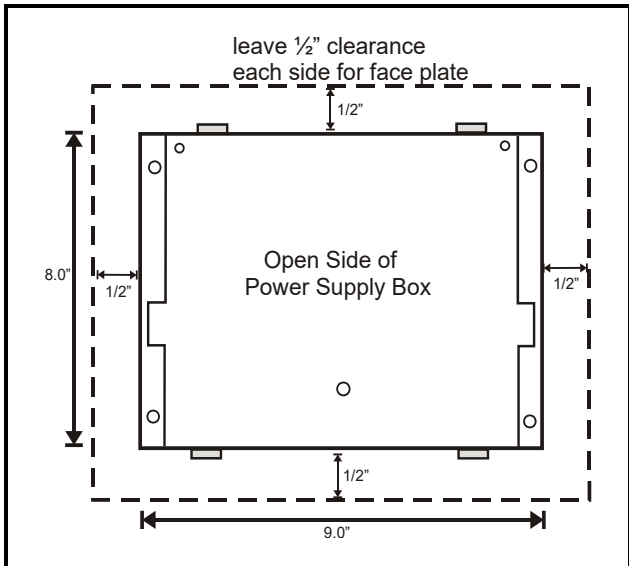

Figure 2-5 - Leave 1/2" For Face Plate Mounting
3.875" deep (20.32 cm high by 22.86 cm wide by at least 9.84 cm deep). When cutting the mounting hole, allow at least 1/2" (1.27 cm) clearance around the hole for face plate mounting (*Figure 2-5*).